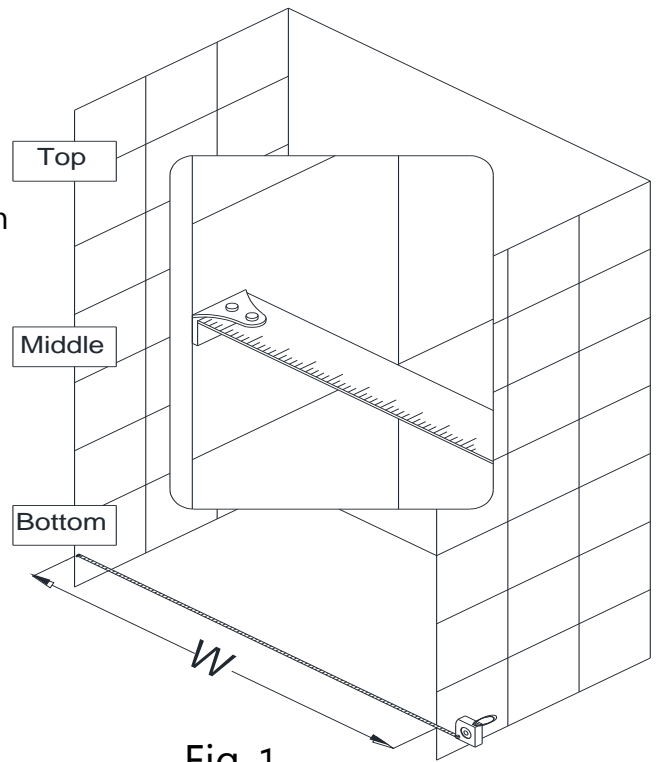

Fig. 1
1. Measure the distance between the two finished walls at the top (at model height: 58" or 72"), middle and bottom. The wall profiles will adjust for out-of-plumb conditions, so **use the smallest measurement as the "finished opening"** dimension to determine the finished cut length in step#2. See Fig. 1 for details.